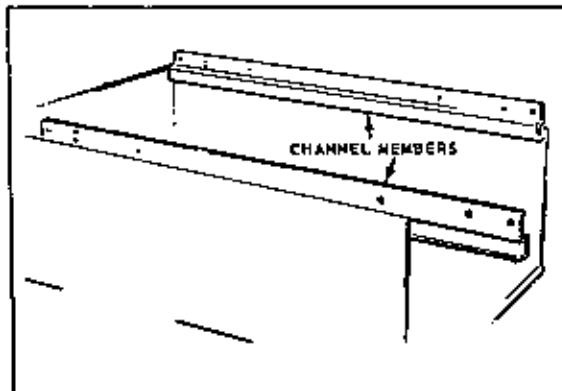

FIGURE 1
A. The enclosure should be constructed on the cart body, starting with the lower channel members shown in Figure 1. The front support assembly is then added as shown in Figure 2. (Refer to the exploded-view and parts list on Pages 8 & 9 for descriptions of the hardware used in this construction).